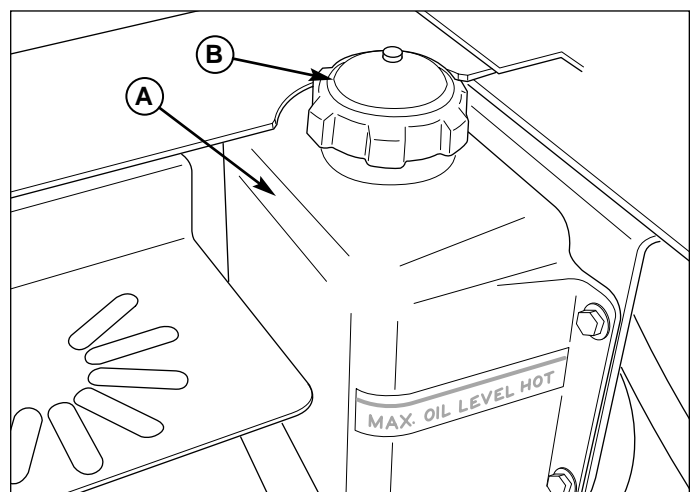

Figure 11. Checking Hydraulic Oil Level
2. Look at the hydraulic oil reservoir (A, Figure 11) and observe the oil level. When cold, the oil level should be approximately 1/2" (1,3cm) below the MAX. HOT OIL LEVEL line. The oil level should never be above the MAX. HOT OIL LEVEL line.
3. If necessary, remove the reservoir cap (B, Figure 11) and add either Mobil 1, 15W-50 synthetic oil or Castrol Syntec 5W-50 oil. **DO NOT** use conventional oils. Make sure area around the fill neck of the reservoir is free of dust, dirt, or other debris.